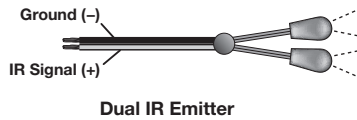

**Figure 4. IR Connector**
2. Connect two wires to the IR port (see figure 4). If both the IR port and digital input are used, the ground pin must be shared by both devices.